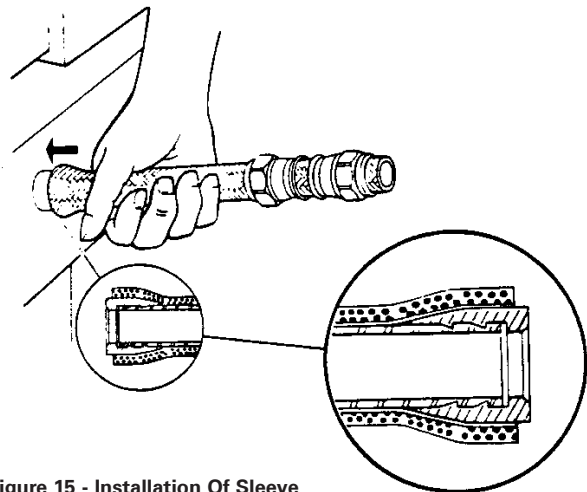

Figure 15 - Installation Of Sleeve
- Step 4. Install sleeve. Carefully insert sleeve between braid and tube O.D. insuring that no wires are trapped between the sleeve and tube O.D. If the sleeve cannot be inserted over the tube, insert a neck down tool (see chart) over the end of the tube and push firmly. This will resize the tubing O.D. to accept the sleeve. Complete positioning by pushing end of sleeve against flat surface until tube bottoms against shoulder in sleeve I.D. (see Figure 15.) However, neck down tool may not be required for all sizes. Visually inspect to see that tube end is bottomed against sleeve shoulder and that no wires are trapped under sleeve.